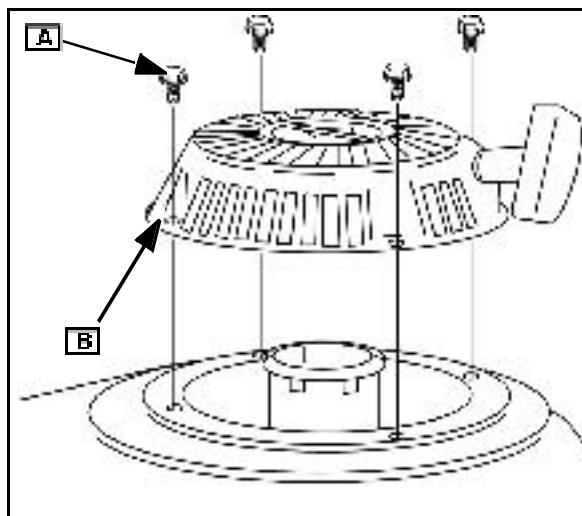

Fig. 1
1. Remove four screws (A) holding rewind starter housing ([B] Fig. 1) and remove.